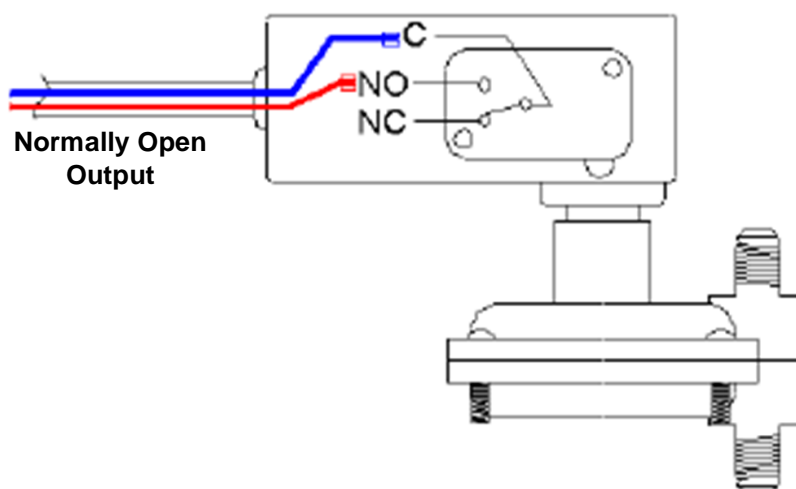

Figure 6 Differential flow switch wiring diagram
1. Differential flow switch has two wires connecting with the NO output. For inner wiring diagram, refer to Figure 6.